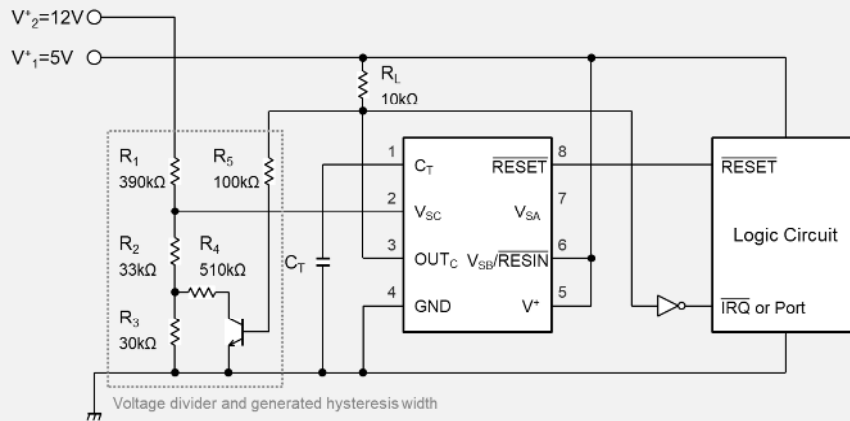

Fig. 6 5V, 12V power supply monitor ($V_1^+ = 5V$, $V_2^+ = 12V$, $\overline{\text{RESET}}$ output is only V_1^+ detection result)
- V_2^+ detection voltage (falling) and hysteresis width at rising are calculated as following formula. In case of resistor value in Fig.6, the detection voltage (falling) is about 9.0 V and the hysteresis width at rising is about 0.2 V